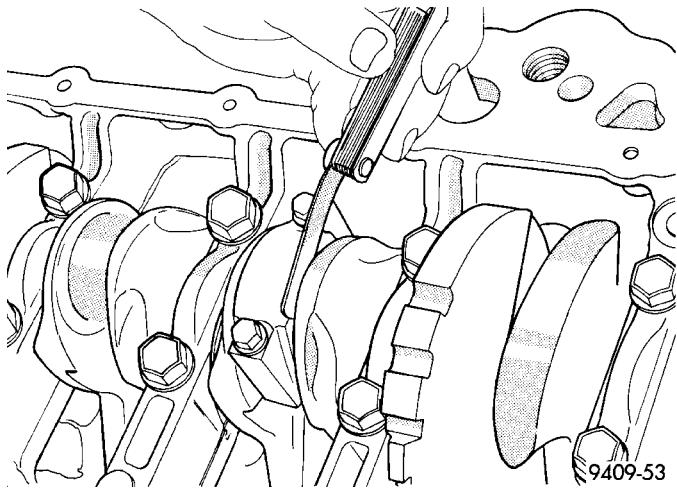

Fig. 68 Connecting Rod Side Clearance - Typical
(5) Using a feeler gauge, check connecting rod side clearance (Fig. 68). Refer to clearance specifications (Refer to 9 - ENGINE - SPECIFICATIONS).